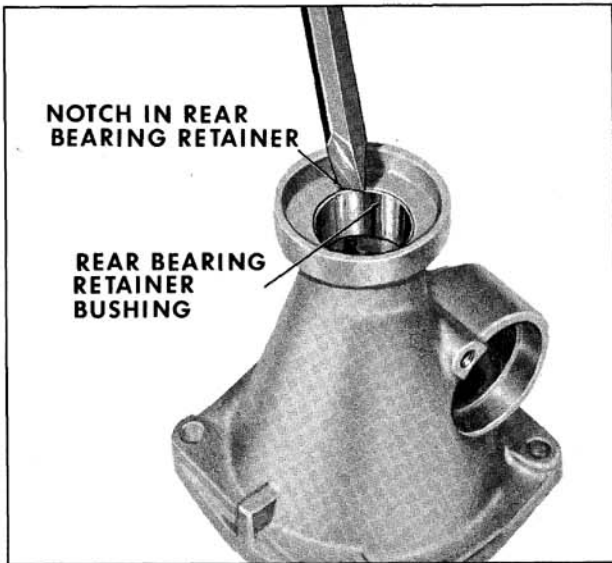

Fig. 6-520 Removing Rear Bearing Retainer Bushing
1. Remove the rear bushing as shown in Fig. 6-520.